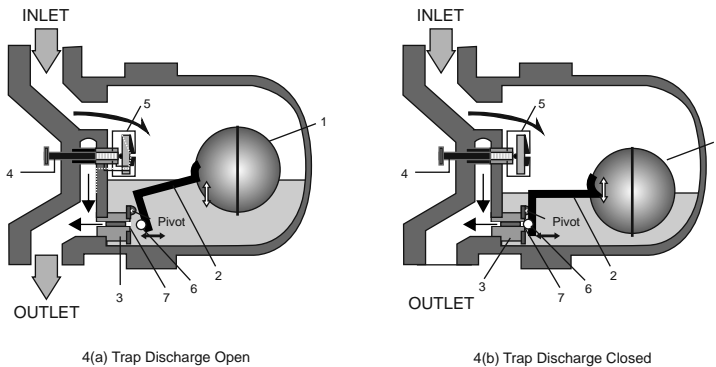

Figure4: Float trap working
4. Product Working Principle : (Refer to Figure 4)
Figure 4 shows a simple float trap operational representation. A float trap works on the Buoyancy Principle. Condensate enters the trap body and raises the float (1). The position of the float (1) depends upon the level/load of condensate (flowrate). The float trap continues to discharge condensate continuously and doesn't allow back up of condensate as long as the load is within the discharge capacity.
*The trap in the figure 4 shows a TV + SLR assembly. SOFT53 comes with only TV or SLR assembly.